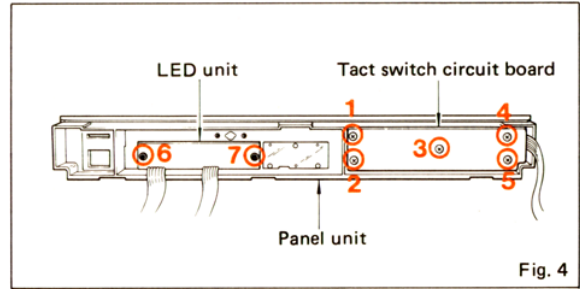

Fig. 4
- 1) Remove screws ① through ⑤ in Fig. 4 and then remove the tact switch circuit board.
- 2) Remove plastic rivets ⑥ and ⑦ in Fig. 4 and then remove the LED unit.